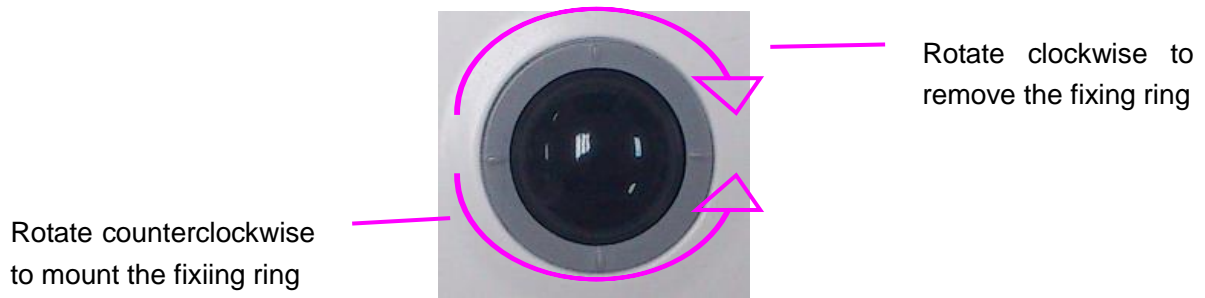

Figure 15-2 Assembling and Disassembling Trackball
2. Remove the trackball as shown in *Figure 15-2*.